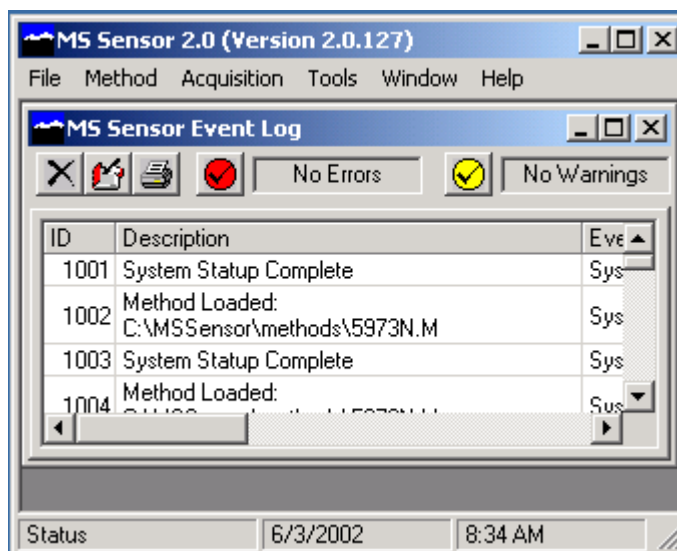

Figure 3 Top screen
- 1 To start the software, double-click the MS Sensor icon on the desktop or run **C:\MSSensor\MSSensor.exe**. The top screen and the current event log appear (Figure 3).